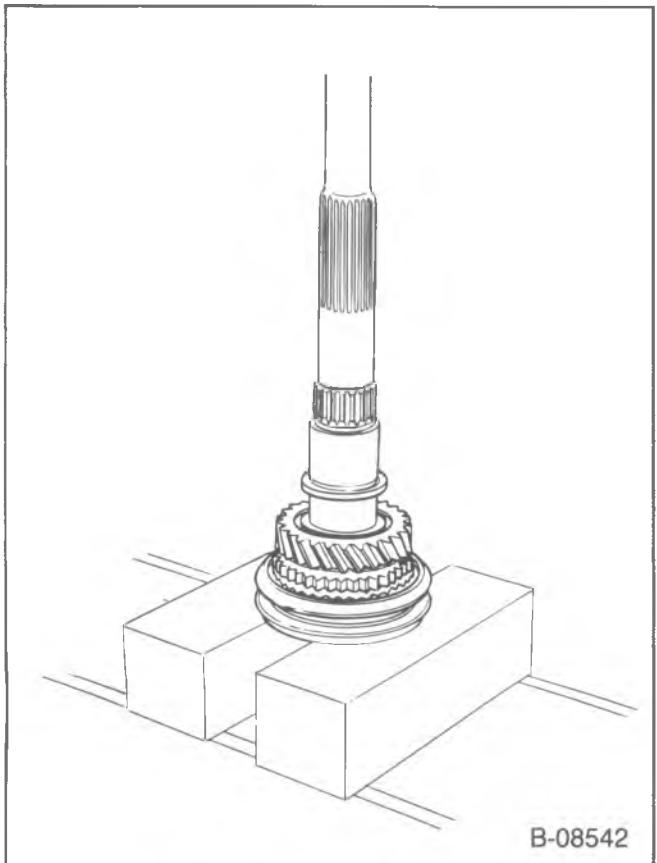

Figure 95—Installing the 3rd Gear
2. 3rd speed gear (570), the blocker ring and the 3rd and 4th synchronizer (568), (figure 95).
3. Install a new snap ring (567).